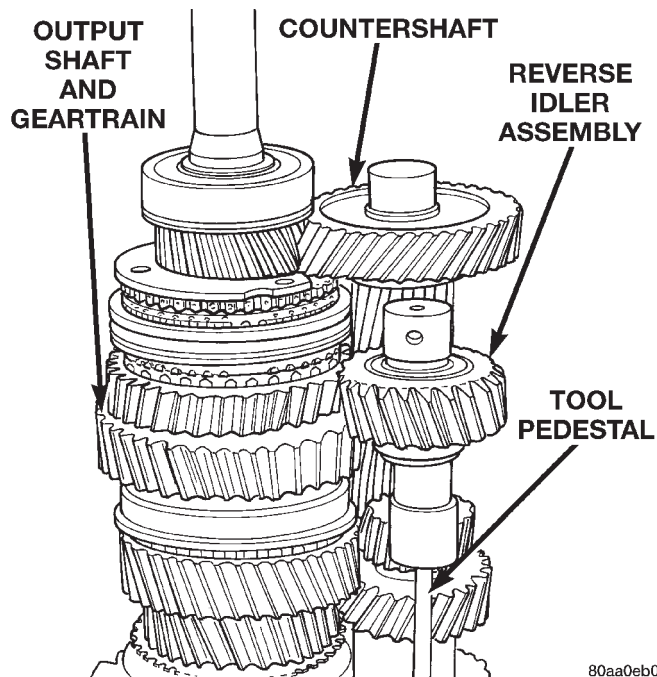

Fig. 90 Reverse Idler Assembly Positioned On Assembly Fixture Pedestal
(10) Position reverse idler in support cup of assembly fixture (Fig. 90). Be sure idler gear is properly meshed and aligned with shaft gear teeth and that bolt holes are facing out and not toward geartrain. Adjust pedestal up or down if necessary. Also be sure that short end of idler shaft is facing up as shown.